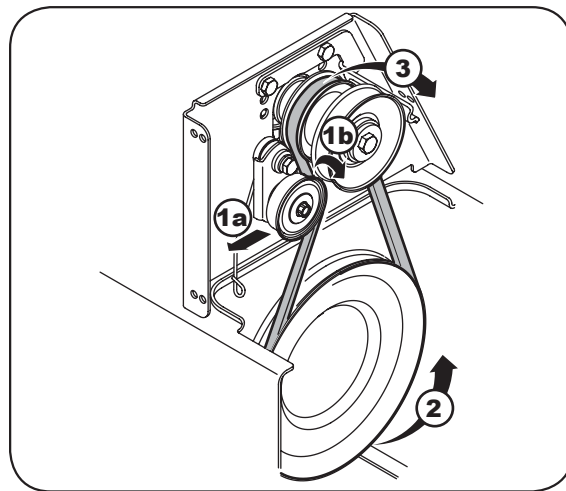

Figure 6-11
- Slide the drive belt off the idler pulley. See Figure 6-11. Carefully release the idler pulley.